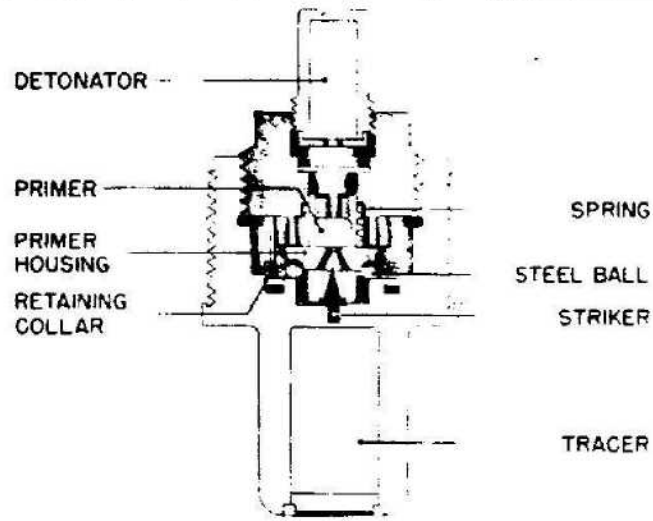

Figure 606—M. 35
**EMPLOYMENT:** Base fuze used on German 4.7-cm A. P. ammunition. (See fig. 606.)